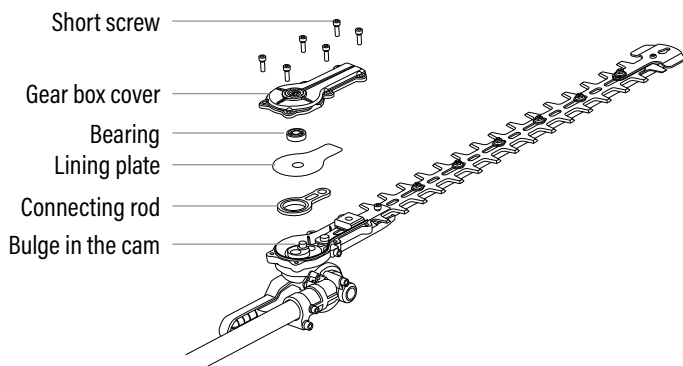

Fig. 6C
5. Align the connecting rod with the rivet in the blade and install the connecting rod into place. (Fig. 6C)
7. Mount the gearbox cover onto the gear case and secure it with 6 short screws. (Fig. 6C)